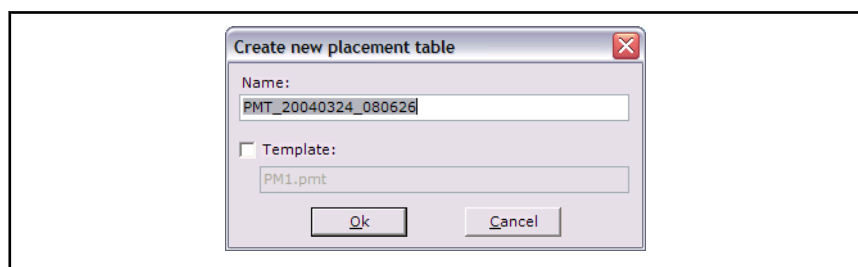

Fig. 6-26: Dialog to create a new placement table
A dialog opens (see fig. 6-26 "Dialog to create a new placement table" on page 162) to create a new placement table (continue with point 3).
A dialog opens to create a new placement table (see fig. 6-26 "Dialog to create a new placement table" on page 162).
1. Open the **New** dialog (see fig. 6-26 "Dialog to create a new placement table" on page 162) as described above.